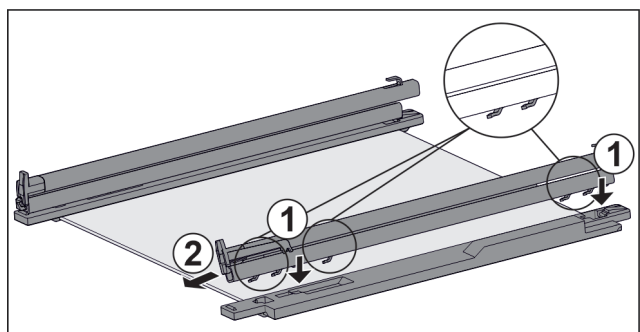

Fig. 130 Glass shelf with rails and retaining parts
- ▶ Place rail hooks onto the openings of the **left** retaining part. *Fig. 130 (1)*
- ▶ Push rail forwards. *Fig. 130 (2)*
- ▶ Place rail hooks onto the openings of the **right** retaining part. *Fig. 130 (1)*